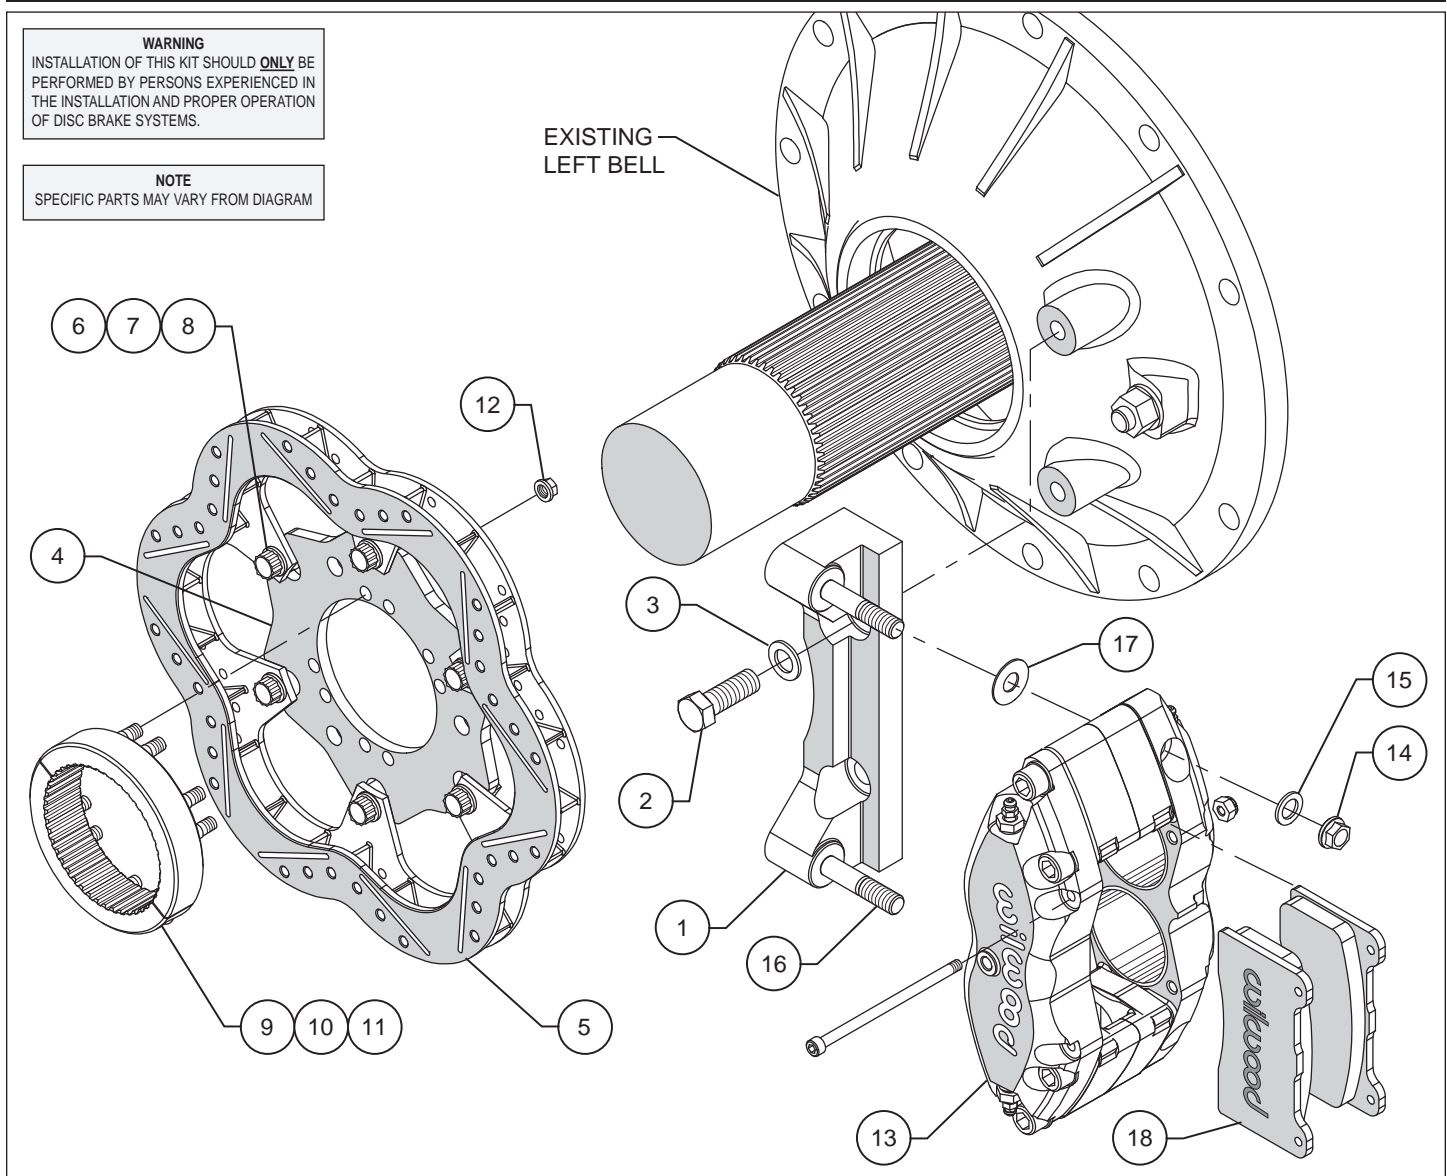

Figure 1. Typical Installation Configuration
- Install the caliper mounting bracket (1) onto the bell housing by first coating bolt threads (2) with red *Loctite*[®] 271 and sliding bolt (2) through washer (3) through caliper mounting bracket (1) and thread into the bosses on the bell. Torque bolts (2) to 80 ft-lbs. The flat side of the mounting bracket (1) mounts flush onto the mounting bosses, as shown in Figure 1.
- With the T-notches of the rotor adapter (4) facing away from the rotor (5), attach adapter (4) to rotor (5) using bolts (6), washers (7) and t-nuts (8), as shown in Figure 1. Finger tighten. After all t-nuts have been installed, torque bolts in an alternating sequence to 220 ± 20 **in-lbs** (~19 ± 1 ft-lb). Please refer to Wilwood's data sheet DS-669 (available at www.wilwood.com/Pdf/DataSheets/ds669.pdf) for complete t-nut bolt kit installation instructions .